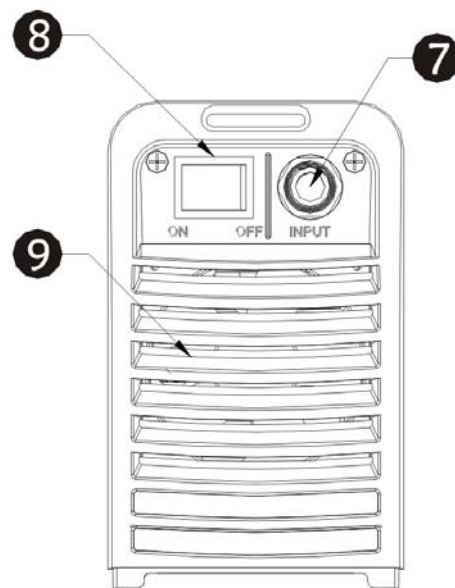

Figure 2
• Back control panel (see Figure 2)